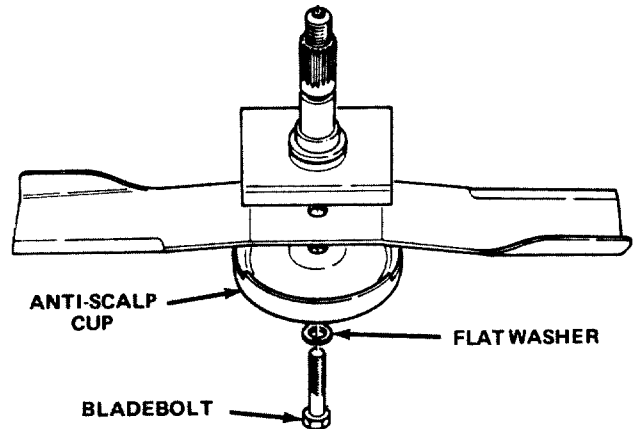

Figure 26
6. Pump grease through grease fitting on wheel (Fig. 26) until bearing is greased thoroughly.
2. Grasp end of blade using a rag or thickly padded glove. Remove bladebolt, flatwasher, anti-scalp cup and blade from spindle shaft (Fig. 26).